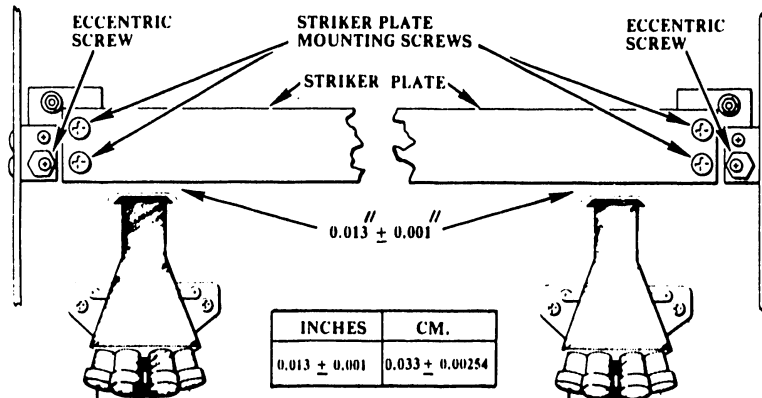

FIGURE 6-10 STRIKER PLATE ADJUSTMENT
- 3) Loosen the four Phillip head screws holding the striker plate to the platen mounting brackets (see Figure 6-10).
- 4) Adjust the striker plate in or out to meet the adjustment of $0.013" \pm 0.001"$ (0.033 cm) by moving the two eccentric screws. (See Figure 6-10.)
- 1) Loosen the four screws holding the striker plate to the platen-mounting bracket (see Figure 6-10) slide striker plate to front of printer and tighten the four screws.
- 3) Loosen two screws holding platen-mounting bracket on left side frame and adjust in or out for a gap of $0.013" \pm 0.001"$ (0.033 ± 0.00254 cm) between striker plate and solenoid wires. Tighten screws. (See Figure 6-10.)